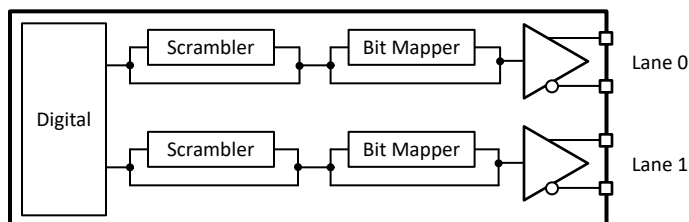

**Figure 8-46. 1/2-wire output bit mapping**
**1/2-wire mode:** The output is only lane DA0 and the sample order is programmed into the 40 addresses of chA (from 0x39 to 0x60). It covers 2 samples (one for chA, one for chB) as shown below. If desired, it can be duplicated on DB0 as well (using addresses shown Figure 8-46) in order to have a redundant output. Lane DB0 needs to be powered up in that case.